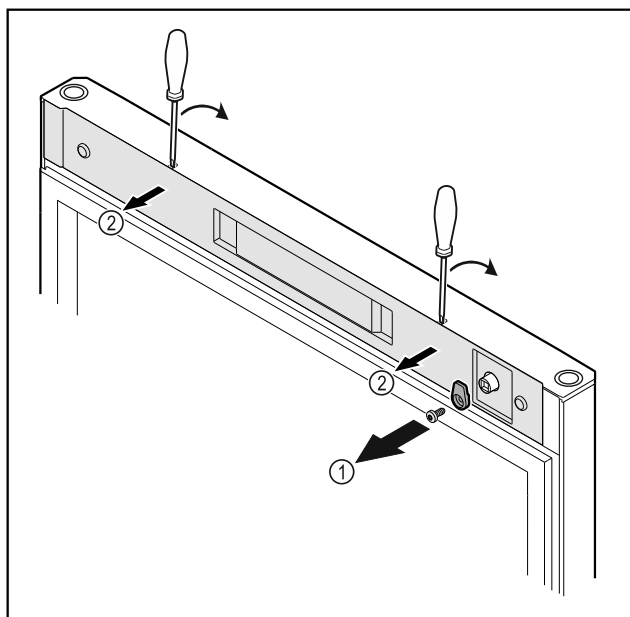

Fig. 6
► Unscrew the door latch Fig. 6 (1).
► Unlatch the cover Fig. 6 (1) with a small screwdriver and remove it.